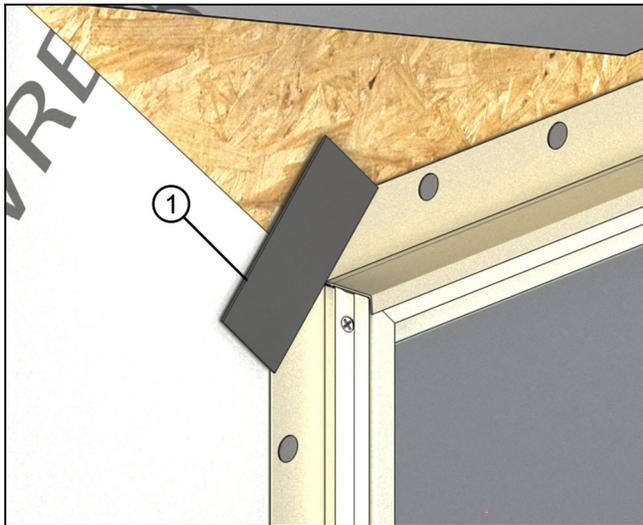

Figure 58
1. On units that use nailing fin, apply a 2" x 4" strip of flashing material at 45 degrees to the corner, bridging the gap between the nailing fin. Do this at all 4 corners. See Figure 58.